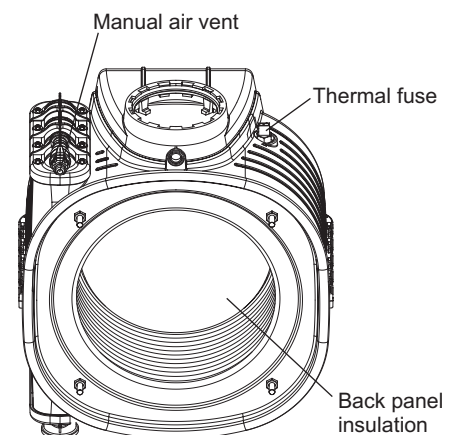

Fig. 33
Back panel insulation - Fig. 33
7.17 HEAT EXCHANGER THERMAL FUSE - Fig. 33